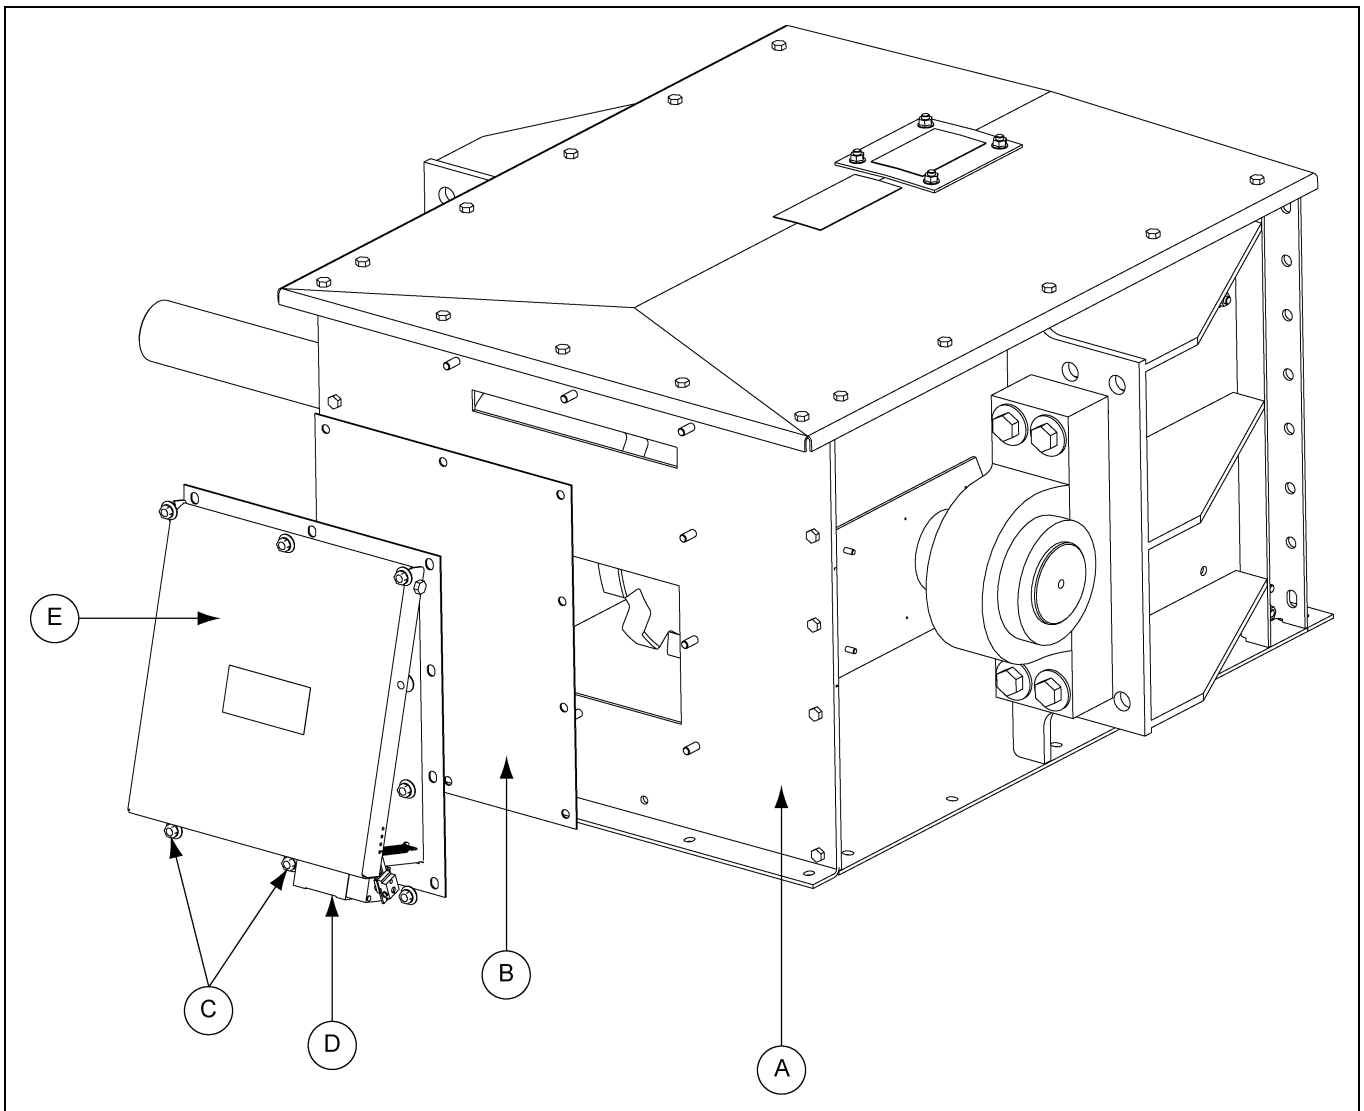

Figure 10B 20 Inch Tall Plug Relief Door without Head Gate
1. Remove the cover plate (B) from the end channel (A) by removing the flange nuts, retain the nuts for re-use.
2. Install the overflow relief door oriented as shown using flange nuts. *(See Figure 10B on Page 45.)*
4. Limit switch (D) trigger adjustments can be made by removing and re-installing the lever arm in a different clockwise or counterclockwise orientation or by adjusting the length of the lever arm. (Refer to the manufacturers supplied instruction sheet for the window of operation.)
5. Overflow relief doors (E) come supplied with a tension spring to prevent false triggers due to reasons other than material build-up (such as positive pressure venting, spring fatigue, etc.). Tension can be adjusted to a stronger setting if necessary by moving the spring end to a higher hole location on the door.
2. Install the plug relief door (A) oriented as shown using flange nuts. (See Figure 10B on Page 45.)